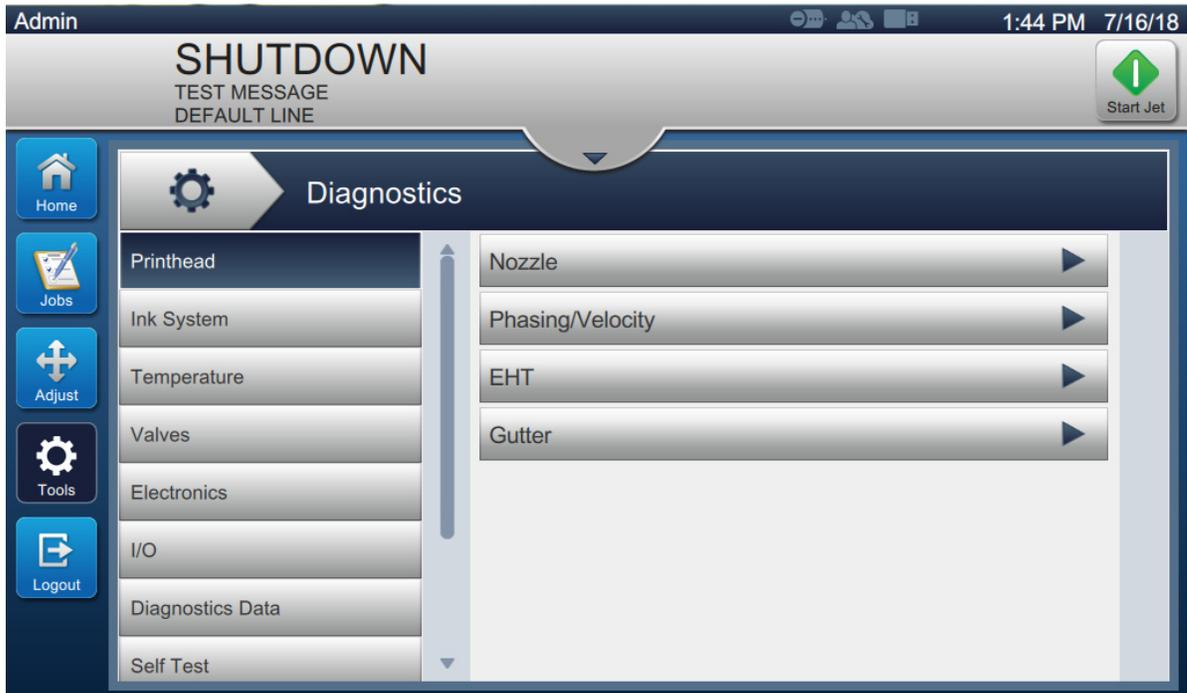

Figure 5-2: System State Screen
1. Touch the  button from the Tools screen. The Diagnostics screen opens as shown in the Figure 5-2.